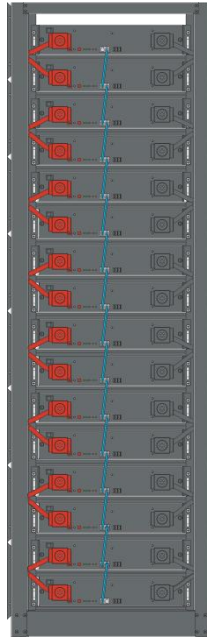

Figure 3-6
4. Stack the required number of battery and BDU as described above, and use 4 screws to fix the battery and BDU on the front bracket. Shown as Figure 3-6.